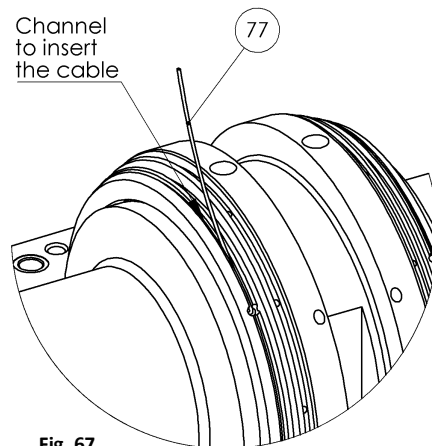

Fig. 67
- Insert the RTD cable (77) into the channel on the bearing shell (Fig. 67). Insert the cable into the whole channel extension.